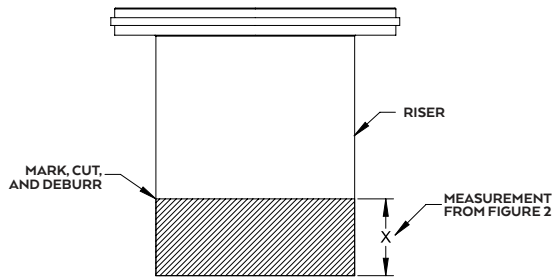

FIGURE 3
7. Whether the riser needs to be cut or not, make another mark with the silver marker on the sidewall of the riser a distance of 4 INCHES (3 INCHES for a AA-M w/ 4" connections) above the edge just cut. If you did not make a cut (meaning your riser height + dimension from step 5 line was beyond the bottom edge of your riser), still mark the sidewall of the riser 4 INCHES above where your riser height + dimension from step 5 line would have been. DO NOT cut this new line. Once the riser is installed into the main unit, this new line will end up at the top of the gasket and will aid in re-assembly. See Figure 3.
6. Remove riser from ring. Take measurement from step 5 from the BOTTOM of the riser upwards towards the top of the riser. Mark a line around the riser, and cut with handsaw, jig saw, or reciprocating saw. Remove debris from cut edge with scraper, utility knife, or gloves. See Figure 3.